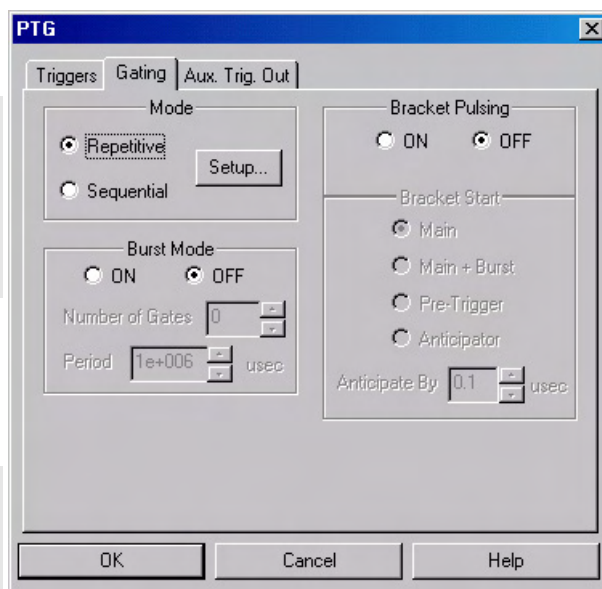

Figure 178. PTG Gating tab page
7. Click on the **Gating** tab (Figure 178).